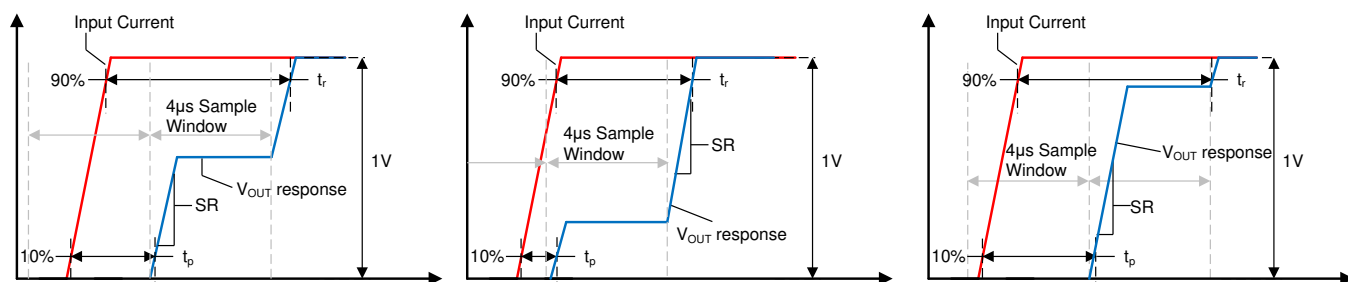

Figure 27. Small Current Input Step Transient Response
Slew rate (SR) is defined as the V_{OUT} rate of change for a single integration step's output transition, as shown in Figure 27. Because the device often requires two sampling windows to reach a full 90% settling of its final value, this slew rate is not equal to the 10%-90% transition time for the full output swing.
Propagation delay is the time period between the input current waveform reaching 10% of its final value and V_{OUT} reaching 10% of its final value. This propagation delay is heavily dependent upon the alignment of the input current step and the sampling period of the TMCS1100, as shown for several different sampling window cases in Figure 27.
Response time is the time period between the input current reaching 90% of its final value and the output reaching 90% of its final value, for an input current step sufficient to cause a 1V transition on the output. Figure 27 shows the response time of the TMCS1100 under three different time cases. Unless a step input occurs directly during the beginning of one sampling window the response time will include two sampling intervals.